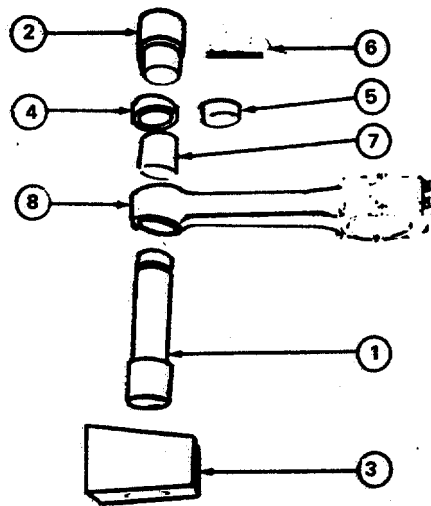

FIGURE 4-37. *Installing Piston Pin Bushing.*
- (4) Remove the cap from the rod (1).
- The alignment of the bolt bores in the rod (1) and cap must not change. Hold the rod (1) and cap in a clamp that holds the rod in alignment when cutting material from the surfaces.
- (5) Install the cap on the rod (1) and tighten the machine bolts (10) to the torque listed in Table 4-9.
- (6) Cut the crankshaft bore with the boring machine, P/N 3375115, that has a precision fixture to keep the piston pin bore and crankshaft bore in alignment. The surface of the bore must be smooth within 75 micro-inches.
- (7) Put the connecting rod (1) in the fixture, P/N ST 561, and check the alignment.
- (8) Cut the inside diameter of the bore for rods with bolts and nuts to measure 3.2722 to 3.2732 inches (83.114 to 83.139 mm), or cut the inside diameter of the bore for rods with capscrews to measure 3.3157 to 3.3167 inches (84.219 to 83.139 mm).
- c. Install the piston pin bushing (7, FIGURE 4-37).
- (1) Put the bushing (7) on the mandrel (1).
- (2) Put the sleeve (4) and then the cup (2) on the mandrel (ST-1242).
- (3) Fasten the cup (2) on the mandrel (1) with the locking pin (6).
- (4) Put the connecting rod (8) on the block (3) and hold it in a horizontal position.
- (5) Insert the mandrel (1) into the bore of the connecting rod (8).
- (6) Align the sleeve (4) with the middle of the boss on the connecting rod (8).